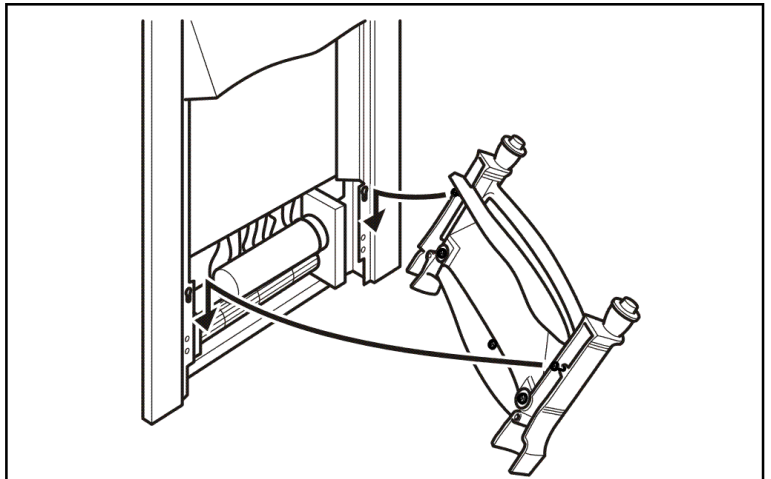

Figure 17. Firefront location (Firefront may differ from that shown)
3. (On Victorian models screw the brass firefront columns supplied with the firefront into the top of the firefront). Locate the firefront onto the fascia (See figure 17). Please note that on the Manor model the firefront has hooks that locate over the top of the 'keyhole' brackets on the fascia.
3. Hook the firefront on to the fascia as in figure 17.